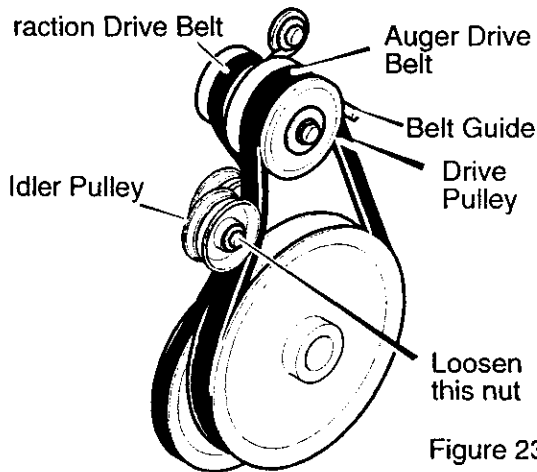

Figure 23
3. Loosen the **nut** on the **idler pulley** and move the pulley toward the belt about 1/8". See Figure 23.
6. Loosen the **belt guide**. Pull the **belt guide** away from the **auger drive pulley**. See Figure 23.